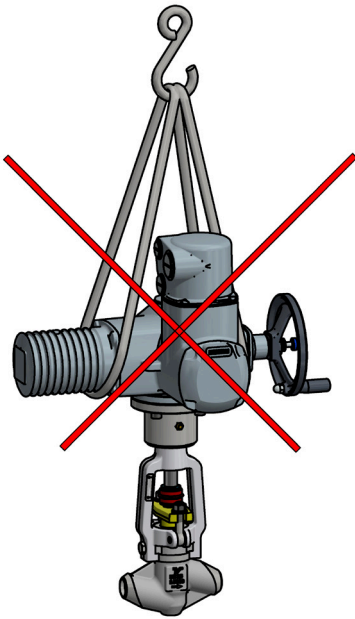

Figure B.14
- Do not use the lifting points located on the actuator (Figure B.14).